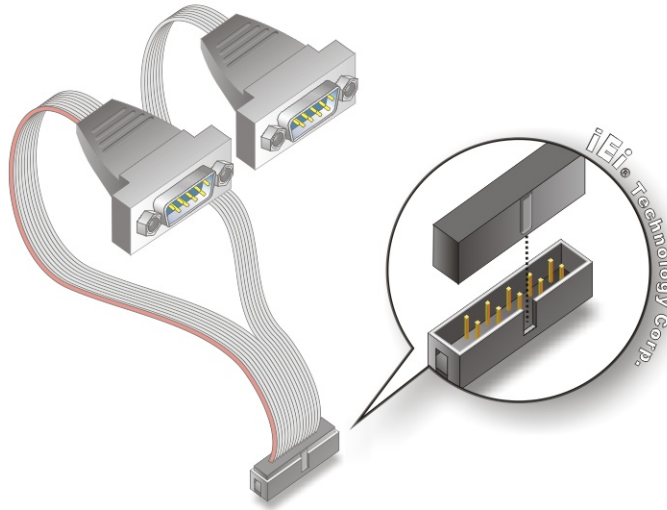

Figure 4-18: Dual Serial Port Connector Cable Connection
- Step 3: Insert the cable connectors** Once the cable connector is properly aligned with the COM2 serial port connector on the NANO-945GSE2, connect the cable connector to the on-board connectors. See **Figure 4-18**.